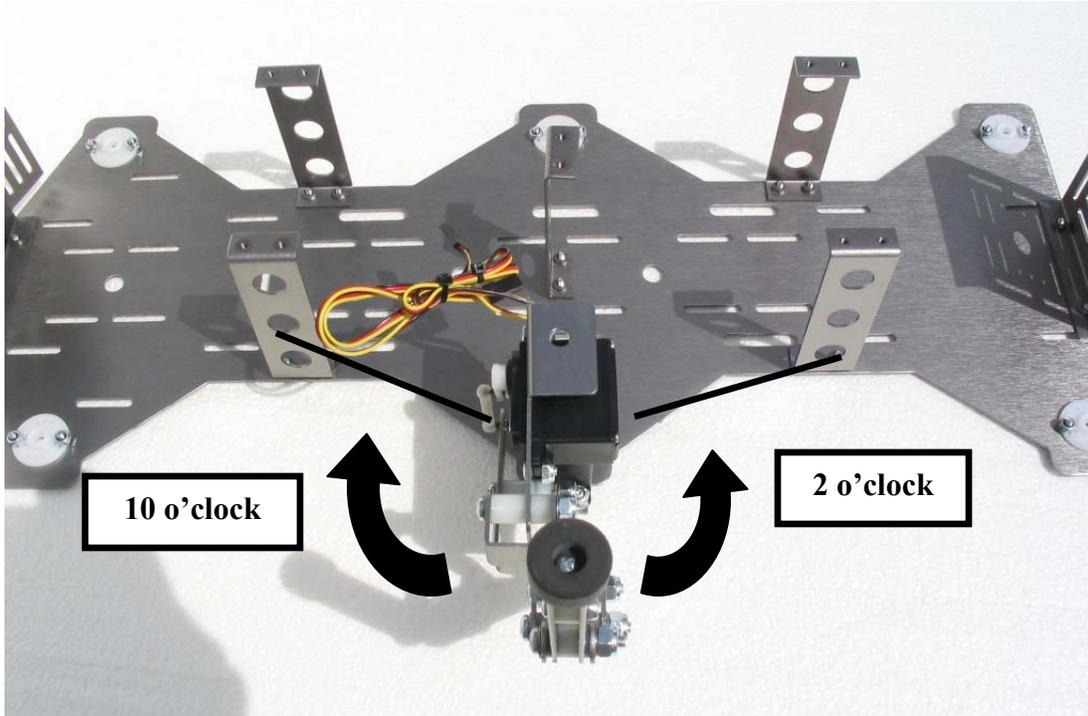

Figure 35
4. Once inserted (do not secure it with the stock servo screw yet), gently swivel and adjust the leg (taking it out of the servo arm rotating the leg clockwise or counterclockwise and then re-attaching it to the servo arm) so that it swings freely from approximately the 10 o'clock position to the 2 o'clock position as illustrated in Figure 35.